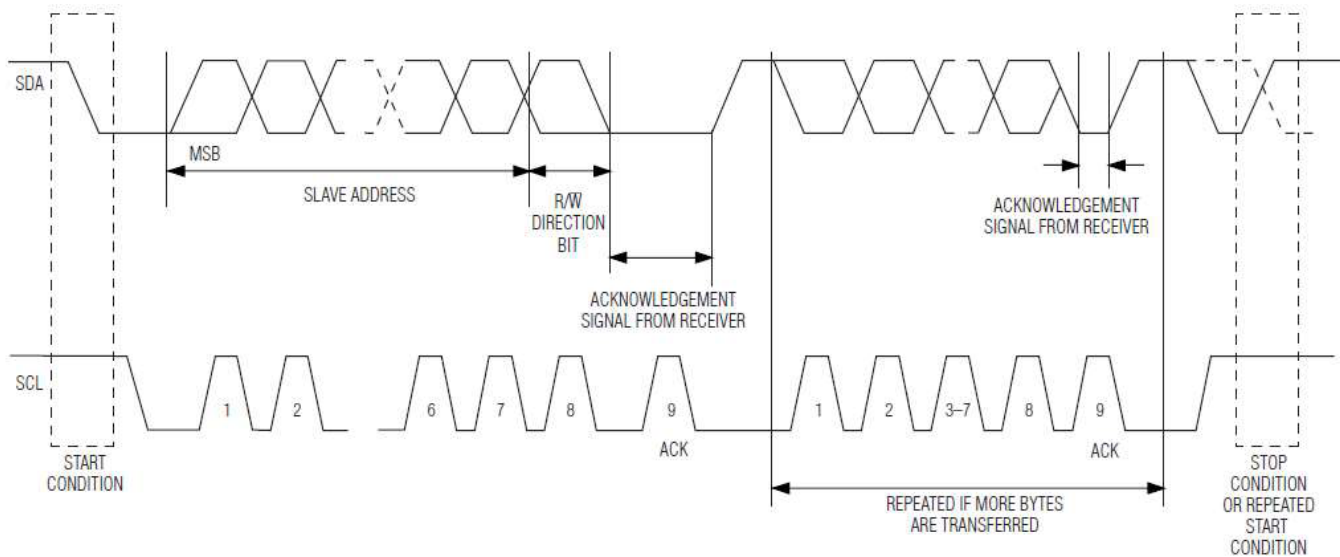

Figure 6 . 2-Wire Data Transfer Protocol
The 2-wire serial-port interface supports a bi-directional data transmission protocol with device addressing. Connections to the bus are made through MOD\_DEF2 and MOD\_DEF1. Timing diagrams for the 2-wire serial port can be found in Figures 6. Within the bus specifications, a standard mode (100kHz clock rate) and a fast mode (400kHz clock rate) are defined. The Module works in both modes.
- **Data valid:** The state of the data line represents valid data when, after a START condition, the data line is stable for the duration of the high period of the clock signal. The data on the line can be changed during the low period of the clock signal. There is one clock pulse per bit of data. Figures 6 detail how data transfer is accomplished on the 2-wire bus.
- **START Condition:** A high-to-low transition of MOD\_DEF2 with MOD\_DEF1 high is a START condition that must precede any other command. See the timing diagrams in Figures 6 for further details.